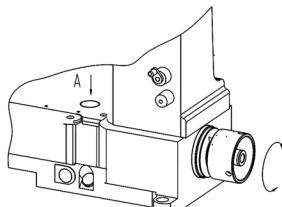

图29(Fig.29)
1. 压下针距调整按钮(A), 并转动手轮, 使按钮卡住针距调整组件, 再转动手轮至所需针距后, 放松此按钮。(图29)
1. Push stitch length regulator bottom (A) and turn pulley until the bottom lock in the stitch regulator. Then, turn pulley again to reach desired stitch length. then ,release the bottom (Fig.29).